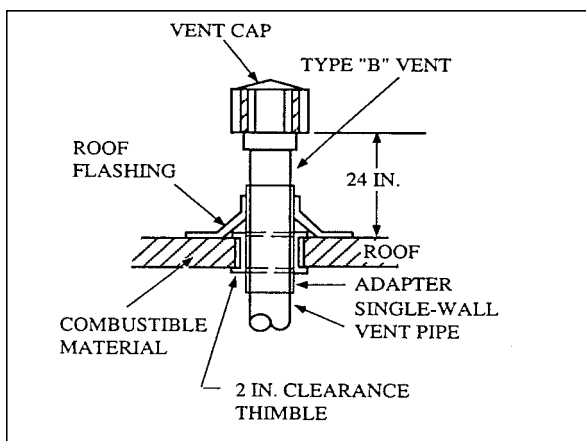
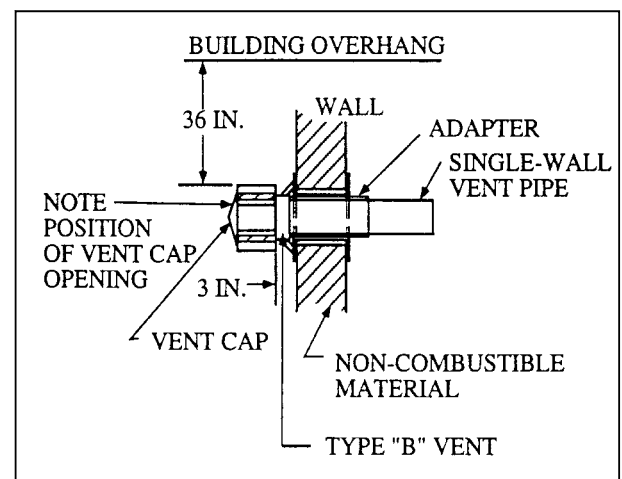

Figure 1-13
Figure 1-14
- The heater vent may exit the building either horizontally or vertically. Vertical venting exiting the roof should terminate 2 ft. above the roof (Figure 1-13). For horizontal venting, the vent termination should be a minimum of 3 in. from the sidewall (Figure 1-14). Care should be exercised to ensure that the vent opening is beyond any combustible overhang.
- Vent passing through combustible wall must use a wall thimble (#DB-210) (Figure 1-13, 14, 15).